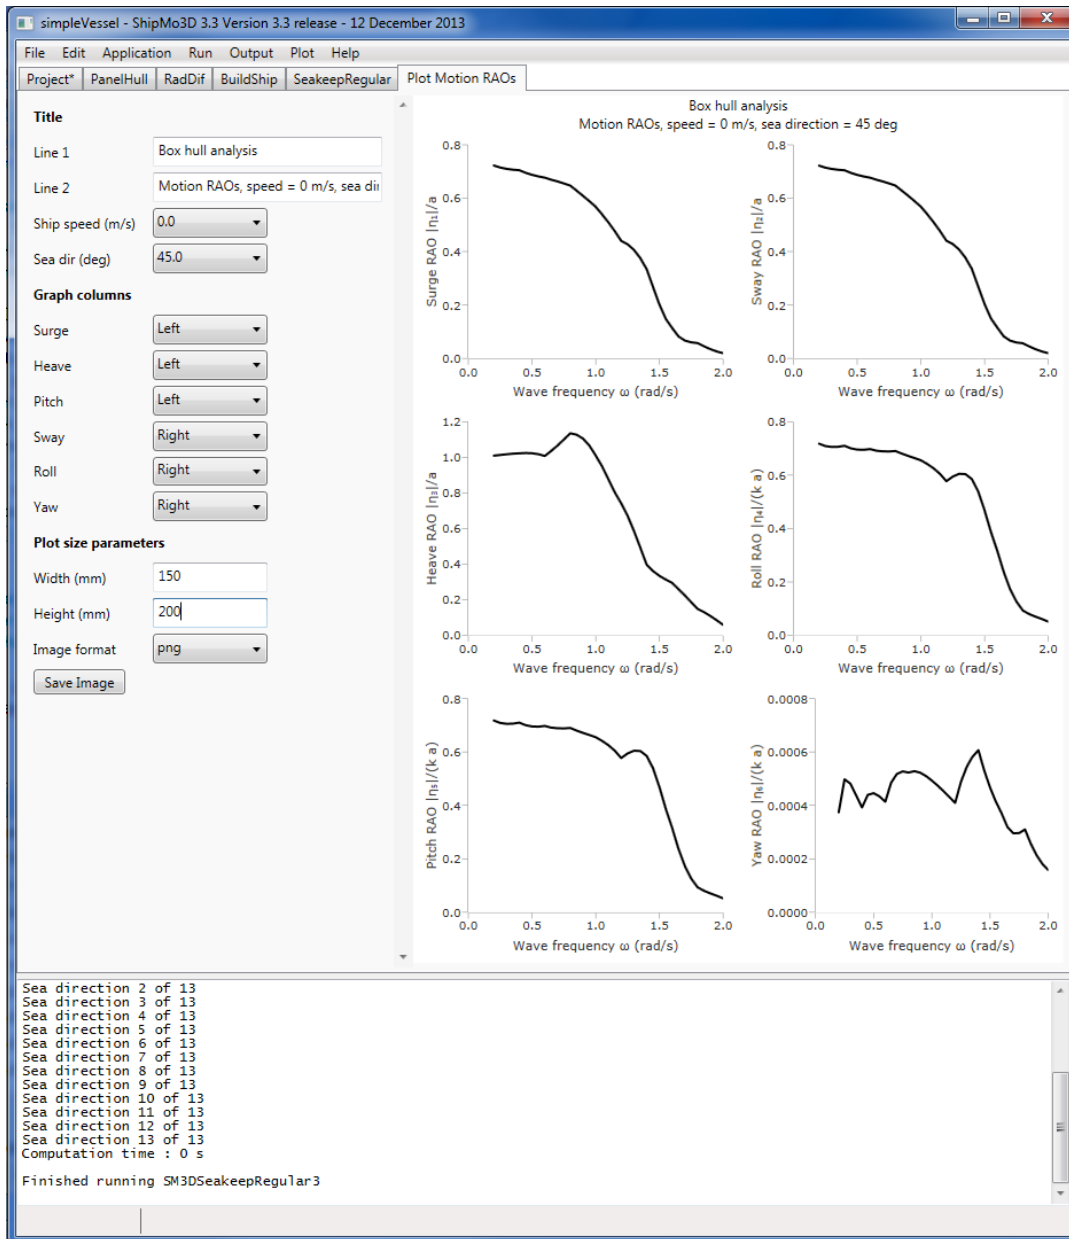
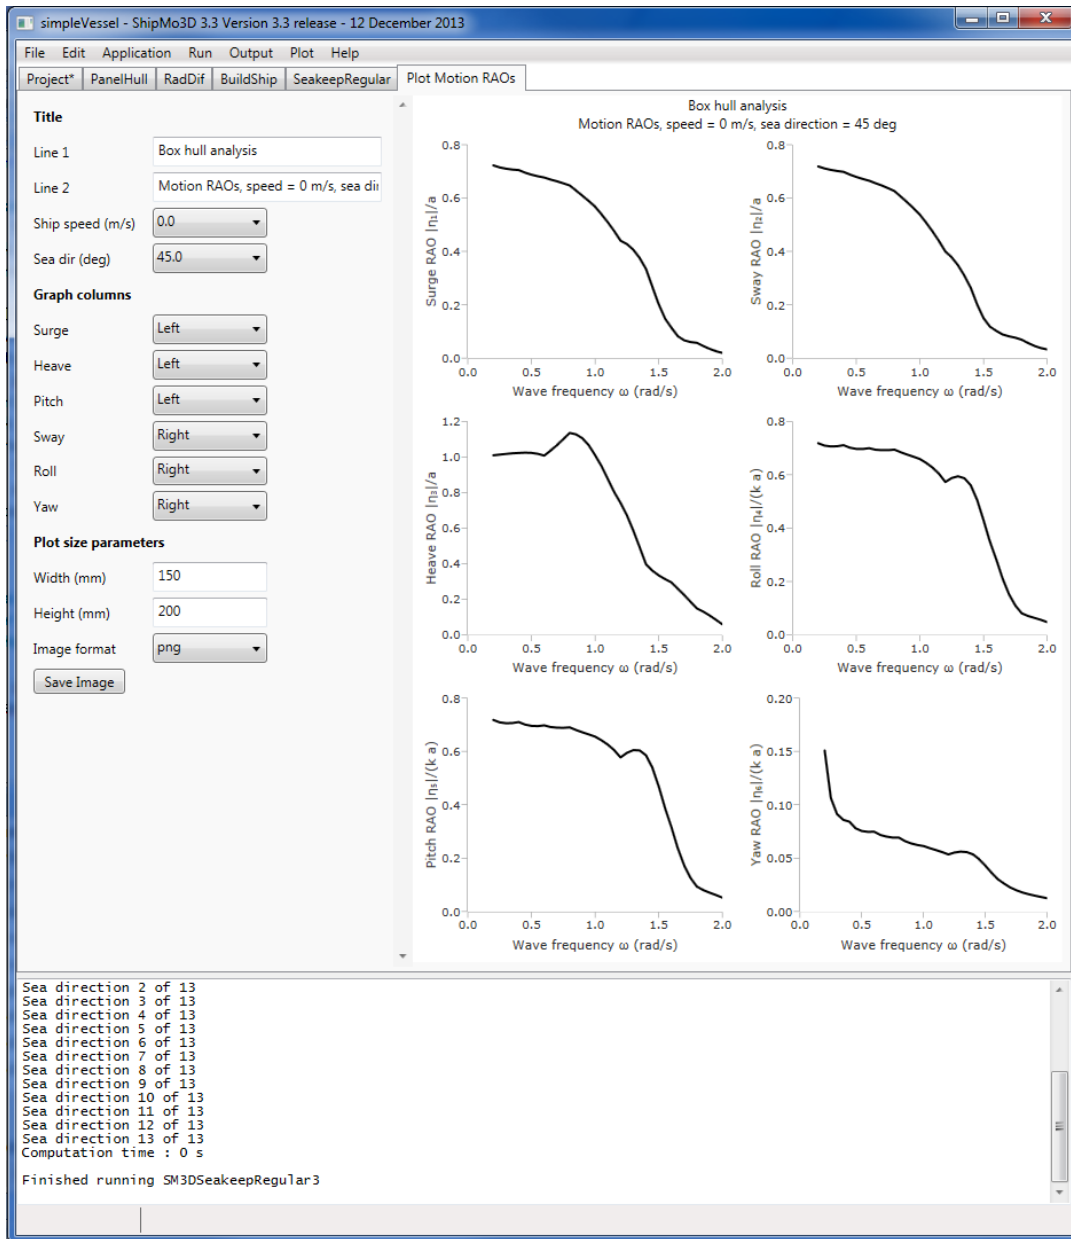

Figure 44: A plot of the square box' motion RAOs for a forward speed of 0.0 m/s and a relative sea direction of 45 degrees.
Figure 47: The square box' RAOs with the skeg.
- ☞ In the newly opened "Plot Motion RAOs" pane, the reader can select a ship speed and sea direction and view corresponding plots of the RAOs of the square box in all 6 DOFs as shown in Figure 44
- ☞ The plotted RAO results in the newly opened “Plot Motion RAOs” pane should now resemble those shown in Figure 47.
- ☞ The sway, roll and yaw DOFs were all affected. The yaw DOF was most significantly affected as can be seen by comparing Figure 44 against Figure 47.